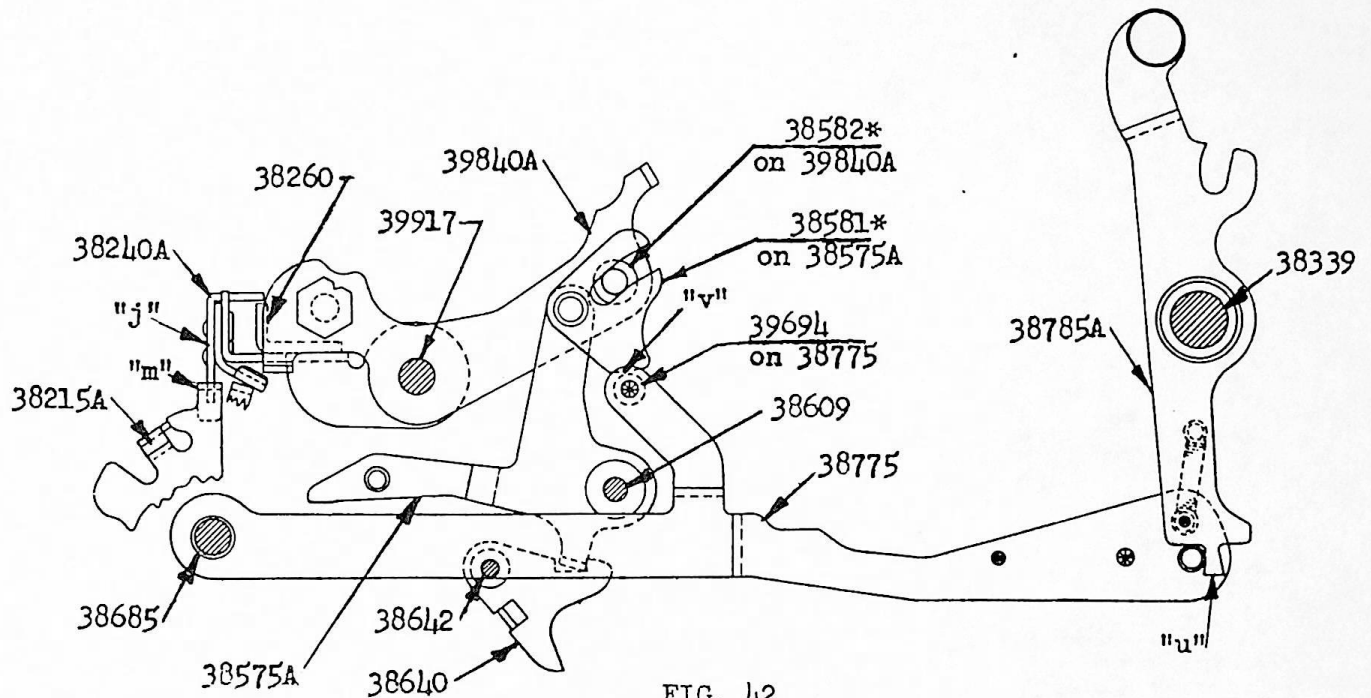

FIG. 42
7. (Fig.42). When the carriage shifts the Traveller will be driven in the opposite direction by Worm Shaft-39917, the shift being latched by the Shift Latch-38775 engaging the nose "u" on the Shift Latch Control-38785-A. As the